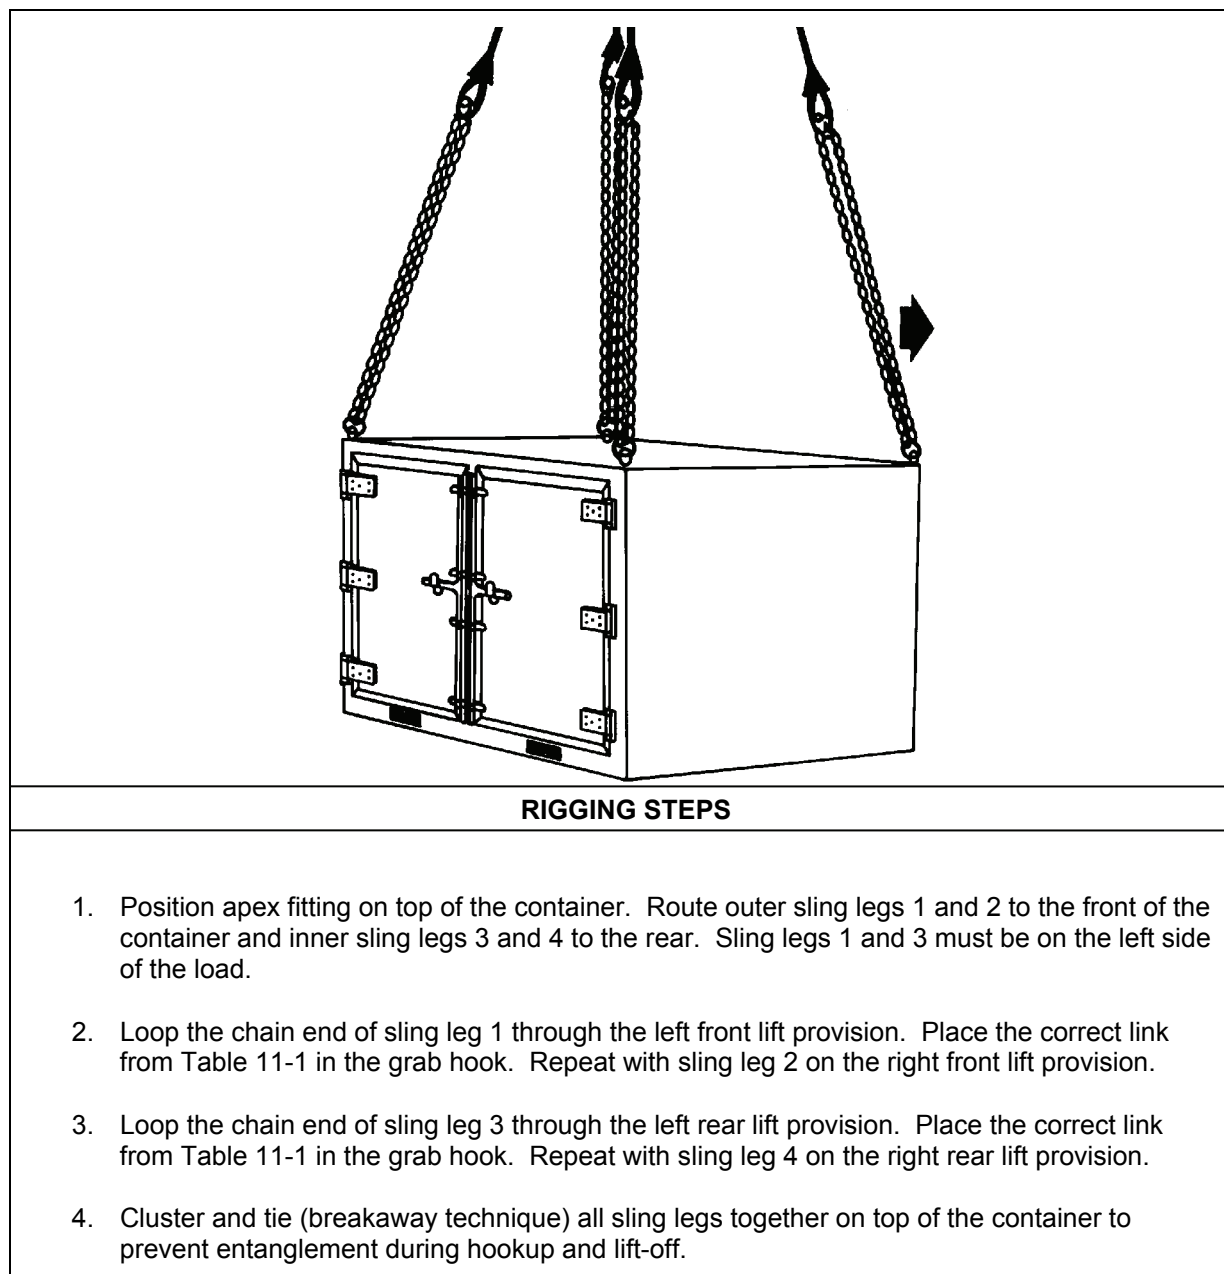

Figure 11-1. Shipping/Storage Containers
- **Rigging.** Rig the load according to the steps in Figure 11-1.